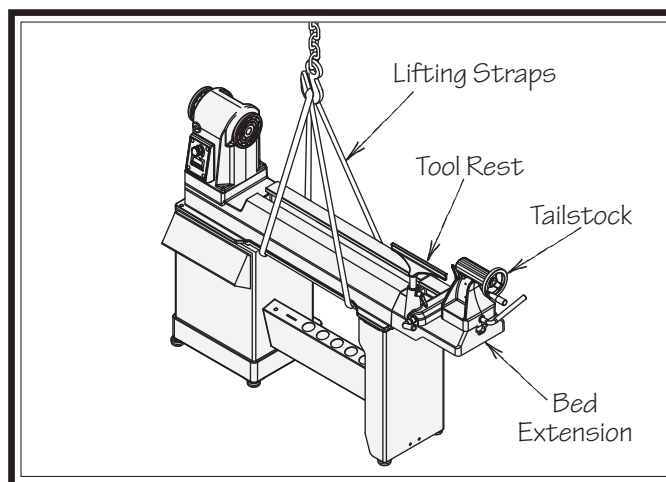

Figure 11. Location of lifting equipment and machine components.
6. Move tailstock and tool rest base to far end of bed extension (see instructions in **Adjusting Tailstock** on Page 23, and **Adjusting Tool Rest** on Page 27), then lock them in place (see Figure 11).
7. Route lifting straps under bed as shown in Figure 11.